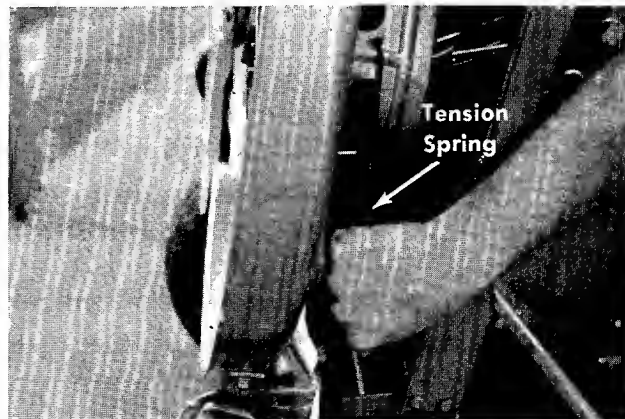

**FIGURE 27. BELT KEEPER**
- Step 2. Remove the belt keeper and large bolt on the engine pulley. See figure 27.